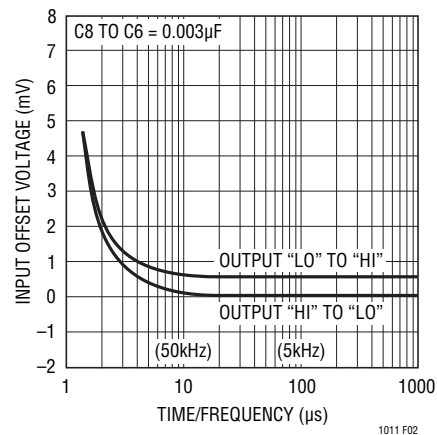

Figure 2. Input Offset Voltage vs Time to Last Transition
This circuit is especially useful for general purpose comparator applications because it does not force any signals directly back onto the input signal source. Instead, it takes advantage of the unique properties of the BALANCE pins to provide extremely fast, clean output switching even with low frequency input signals in the millivolt range. The 0.003 $\mu$ F capacitor from Pin 6 to Pin 8 generates AC hysteresis because the voltage on the BALANCE pins shifts slightly, depending on the state of the output. Both pins move about 4mV. If one pin (6) is bypassed, AC hysteresis is created. It is only a few millivolts referred to the inputs, but is sufficient to switch the output at nearly the maximum speed of which the comparator is capable. To prevent problems from low values of input slew rate, a slight amount of DC hysteresis is also used. The sensitivity of the BALANCE pins to current is about 0.5mV input referred offset for each microampere of BALANCE pin current. The 15M resistor tied from OUTPUT to Pin 5 generates 0.5mV DC hysteresis. The combination of AC and DC hysteresis creates clean oscillation-free switching with very small input errors. Figure 2 plots input referred error versus switching frequency for the circuit as shown.